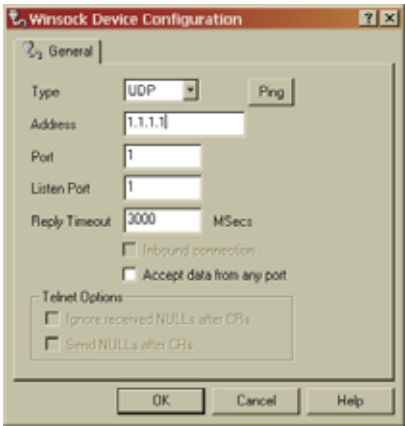

FIG. 187: WINSOCK DEVICE CONFIGURATION/ DEFAULT PARAMETERS
- Step 9. Click on Winsock Device. (See Fig. 186) The Winsock Device Configuration dialog box appears. (See Fig. 187)